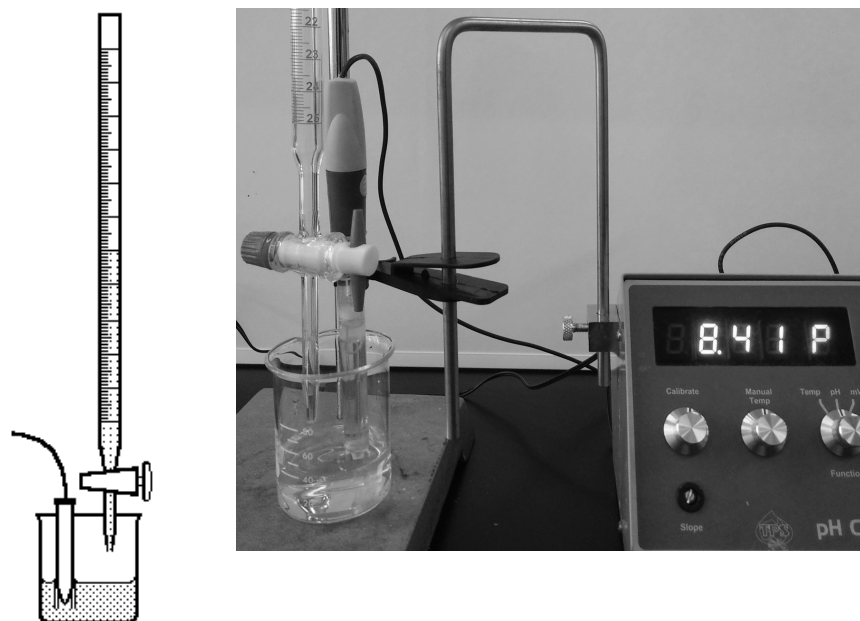

Figure 5.5: Burette set up with pH meter.
- c) Arrange the burette, beaker, electrode and pH meter so that titration can be conducted while the electrode remains in place (see Figure 5.5).